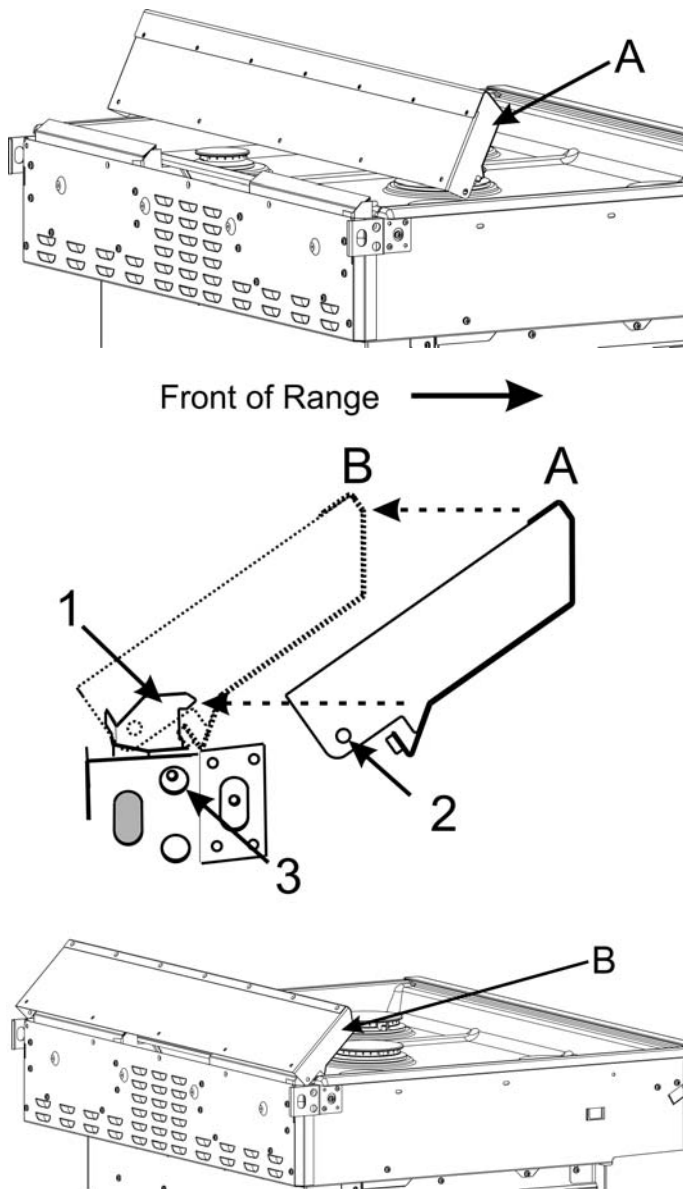

Figure 3: Low Backguard placement 1
9. Place the Low Backguard in position A (See Figure 3) and then move it to position B (engaging the alignment device 1 inside the Low Backguard) (the appearance of the devices may not be exactly as shown).